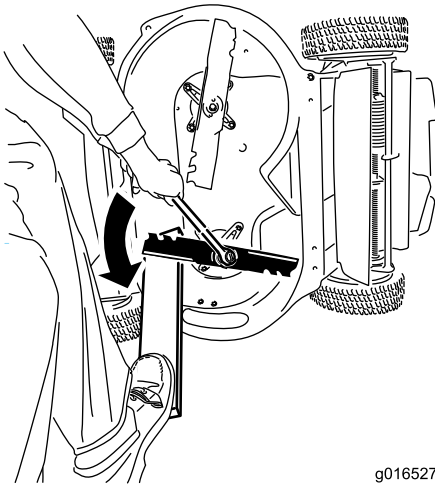

Figure 2
1. Use a block of wood to hold each blade steady, and turn the blade bolt counterclockwise as shown in Figure 2.